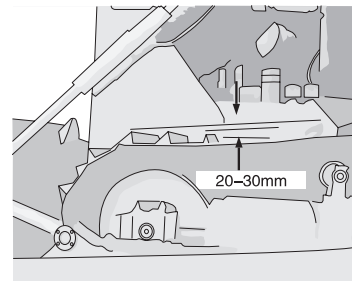

Figure 4-43
- Stop the machine on level ground (stop with the transmission in FORWARD without applying the brake). Then place a straight bar on the track shoes between the carrier roller and the idler (Figure 4-43), and measure the clearance between the bar and the grouser at the midpoint. If the clearance is 20 to 30mm, the tension is standard.